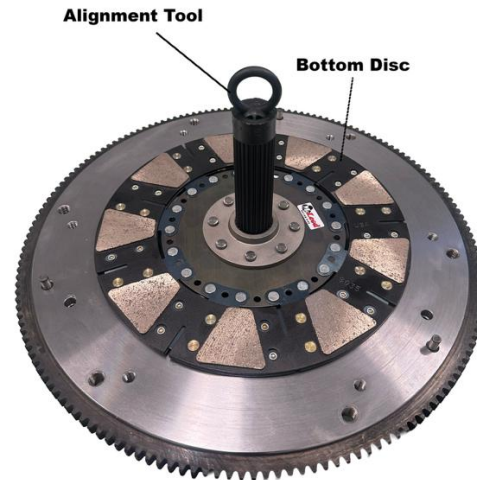

Figure 4
4. Install disc labeled “bottom” to the flywheel using the supplied alignment tool. Be sure the disc is installed with the label indicating ‘flywheel side’ is forward towards the flywheel. See Figure 4.